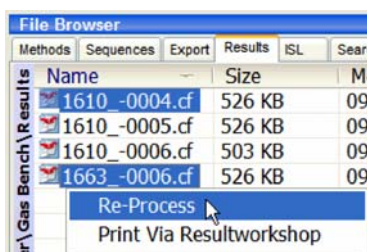

Figure 3-73. Reprocessing selected cf-files
2. With the cf-files of choice marked, perform a right-click and select **Re-Process**. See Figure 3-73.